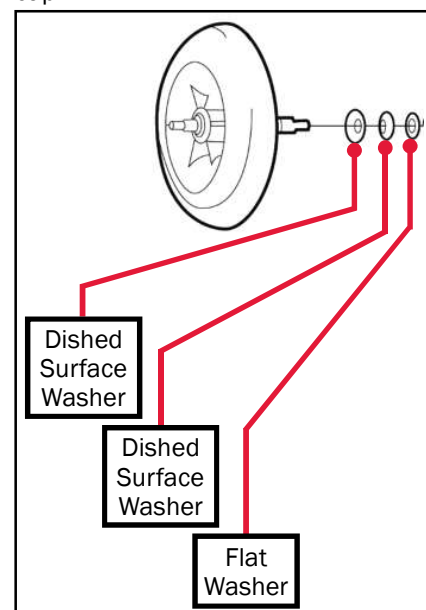

Figure 119
NOTE: Be sure to observe the placement of the three washers of the bearing kit. To ensure proper tension, the same order and direction of the dished surfaces of the washers must be followed when reassembling. See Figure 119.
- Reference Figure 119 for exact placement of the three washers that slide over the threaded end of the combustion air blower's shaft prior to installation. Failure to follow the correct order and direction of the dished surfaces on the washers will result in a restricted rotation of the combustion air blower.